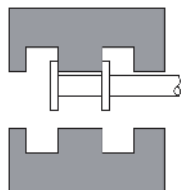
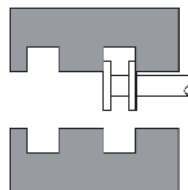
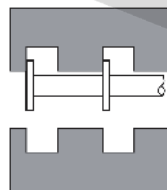
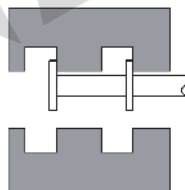

Fig.1
Fig.2
Fig.3
Fig.4
- Measurement: outside measurement(Fig.1), inside measurement(Fig.2), location measurement(Fig.3, 4).
- During reading, the sight is perpendicular to the scale to avoid parallax reading. There are two index lines on sleeve, the upper one is for outside measurement, another one is for inside measurement. The result should calculate the thickness of measuring head (0.75mm) for position measurement. The inside reading should minus 0.75mm(Fig.3). The outside reading should plus 0.75mm(Fig.4). The reading is following: